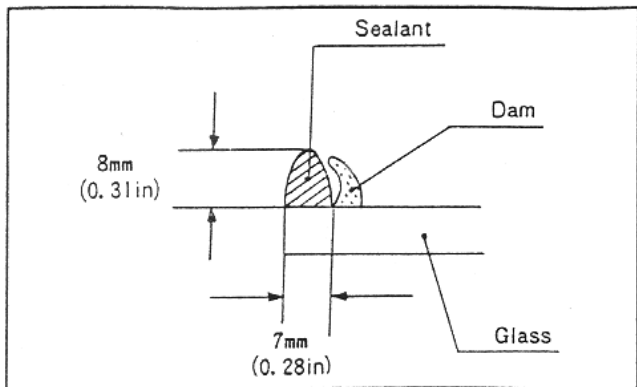

Fig. 14-33 Detail B Fig. 14-32
8. Firmly press the glass against the sealant with hand pressure. Then, inspect the appearance of the sealant through the glass. A dull spot indicates an area where the sealant does not contact glass surface. Additional hand pressure will seal most areas. When installing the glass, 5.8 mm (0.23 in) clearance should exist between the body and the glass. Check the clearance at the four positions shown in Fig. 14-33.